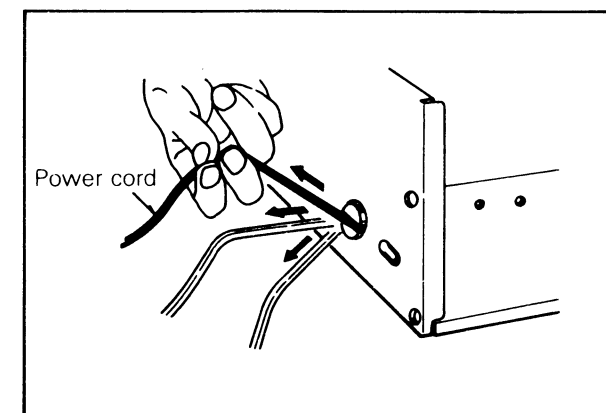

Fig. 2
8. When a power cord has been replaced, check that 10-15Kg of force in any direction will not loosen it.(Fig. 2)